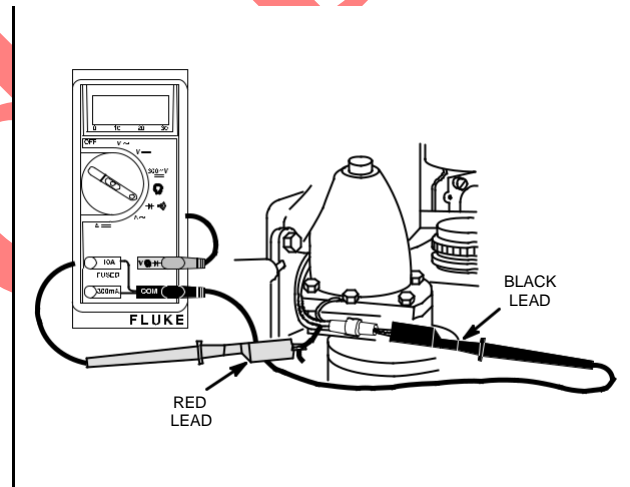

Fig. 741 – TESTING RECTIFIER
5. Pierce one output wire with a pin and touch RED test lead probe to pin as shown in Fig. 741.